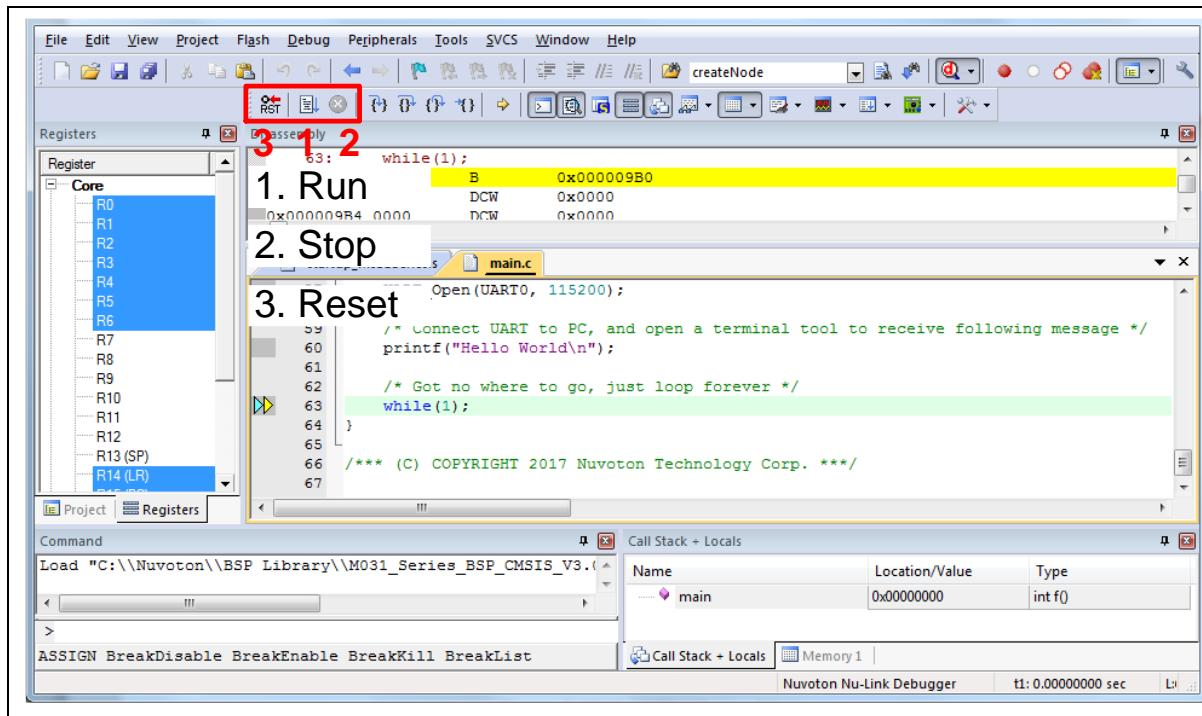

Figure 4-13 Keil C51 Debug Mode
4. Figure 4-13 shows the debug mode under Keil C51. Click “Run” and the debug message will be